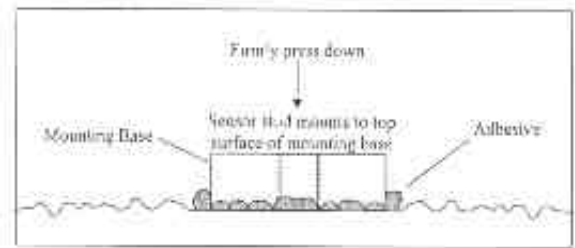

Figure 7. Mounting Base: Adhesive Installation
STEP 3: Place a small portion of adhesive on the underside of the mounting base. Firmly press down on the assembly to displace any extra adhesive remaining under the base. (figure 7)